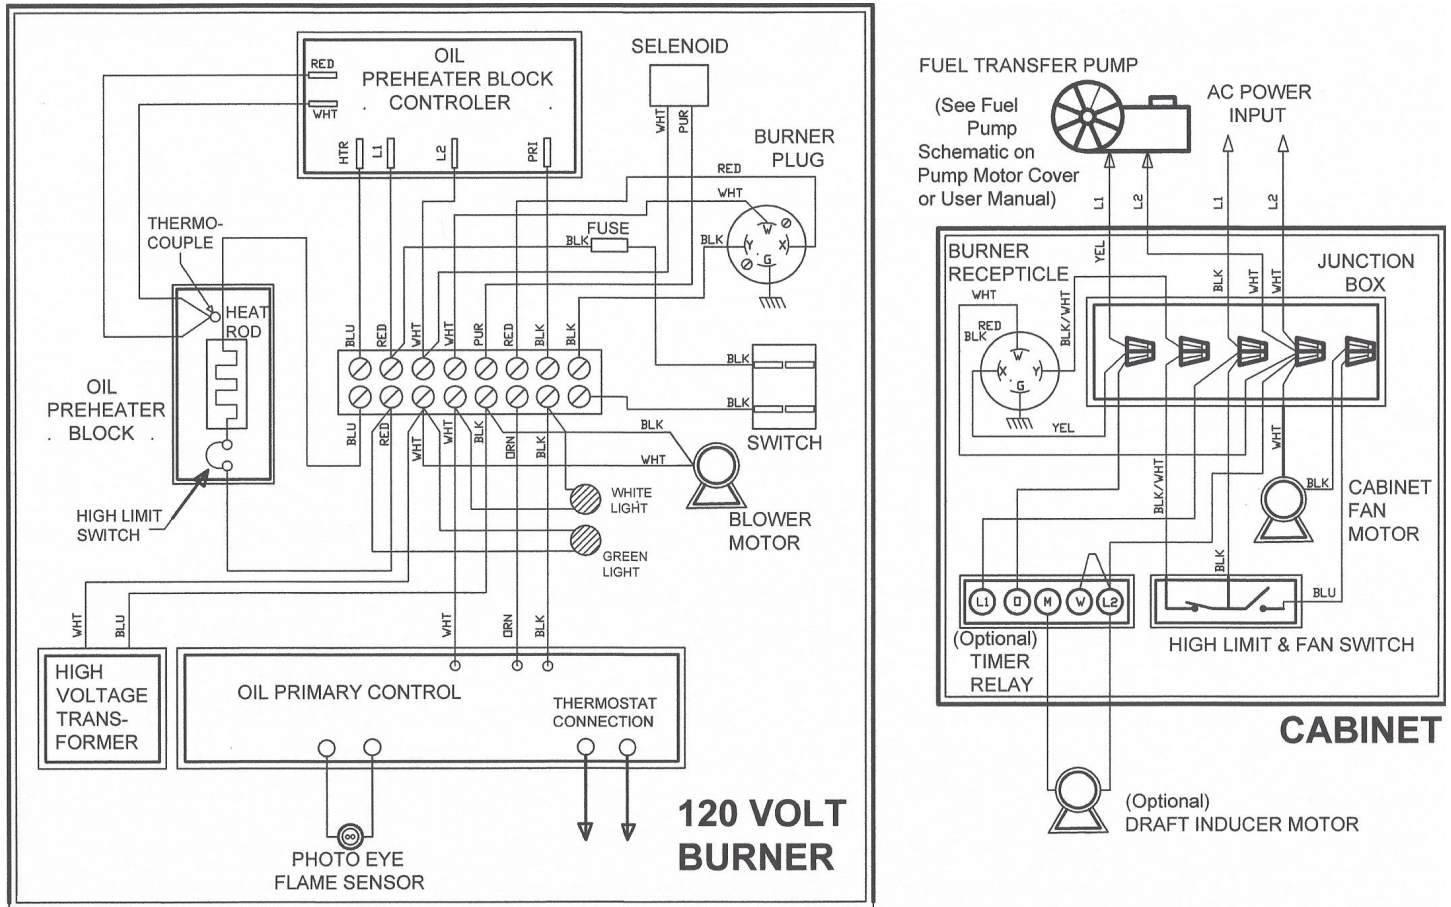

Figure 2 - Wiring Diagram
2. For optional draft inducers or power vent wiring, See Figure 2. One of these devices must be installed where back draft is present. In building or correct draft cannot be achieved.
See Schematic diagram below (Figure 2) and/or inside door of main electrical junction box on heater.